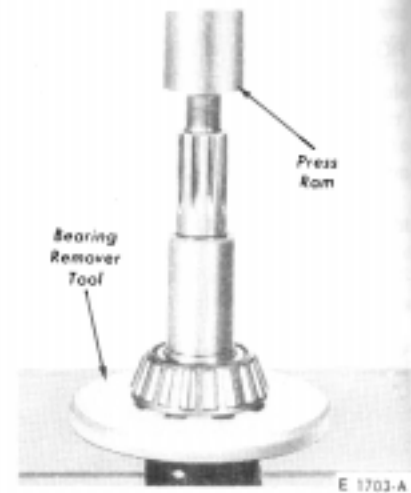

FIG. 14 Removing Pinion Bearing
9. If the pinion rear bearing cone is to be replaced, use the type of tool shown in Fig. 14.